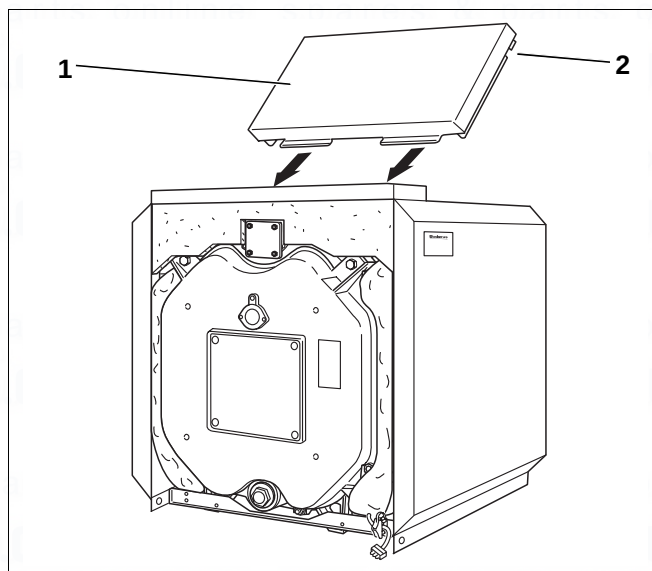

Fig. 37 Installation – rear hood
- Place rear hood (Fig. 37, [1]) between the side panels so the cut-out (Fig. 37, [2]) fits over the connection plate.